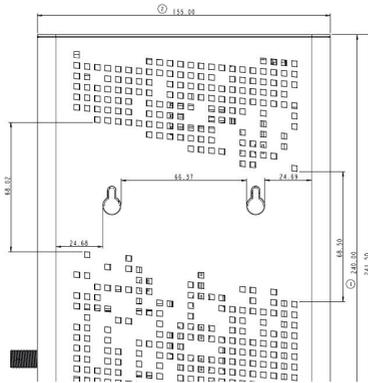

Figure 1: Distance (horizontal) Between Brackets for Screws
1. Install two screws horizontally apart on a wall using the measurement shown in Figure 1. The screws should protrude from the wall in order to fit the device between the head of the screw and the wall. If the screws are installed in drywall. Use hollow wall anchors to ensure that the unit does not pull away from the wall due to prolonged strain from the cable and power connectors
Refer to Figures 1 and 2 for more details.